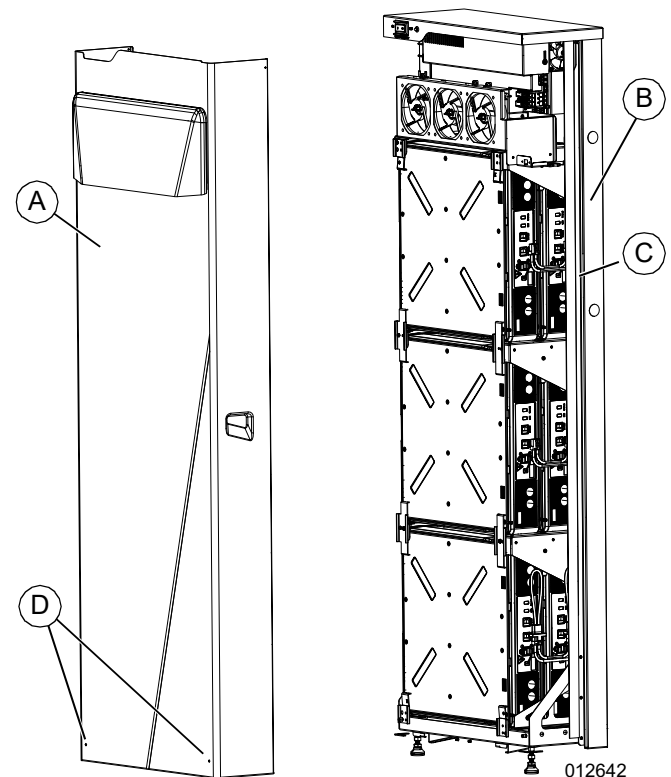

Figure 4-37. Installing Front Cover
- See Figure 4-37. Place cover (A) upright in front of unit.
- Slide cover straight back until it engages with body (B).
- Verify all angled guides are tucked inside body. The back edges of the cover should be against the rubber gasket along their entire length (C).
- See Figure 4-37. Remove the two M4X16 mm SEM (D) securing cover (A) to body (B).
See Figure 4-37. Inside of the PWRcell Battery, battery modules are stacked 2-deep on three levels, allowing for up to 6 modules to be connected in a series. In systems with less than 6 modules, a PWRcell Battery can be upgraded with additional modules.